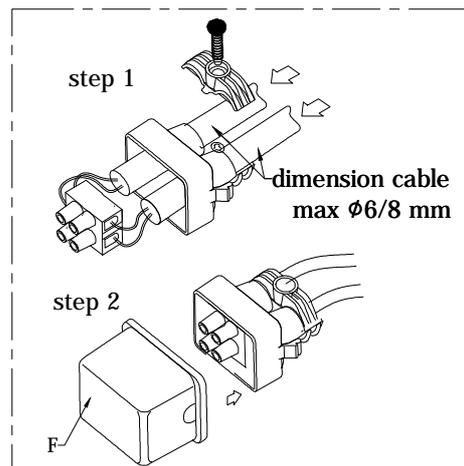

Fig. 2
- Collegare il connettore in dotazione come riportato in (FIG. 2)
- Unscrew the handle (A) and lower the canopy (B). (Fig.A)
- Fix the bracket (C) with screw (D) and dowels (E) on the ceiling. (Fig.A)
- Adjust the length of the steel cable acting on regulating terminal security (G), push the part (B) of the gripper so that the steel cable runs. (Fig.A).
- Connect the connector supplied as described (FIG. 2)